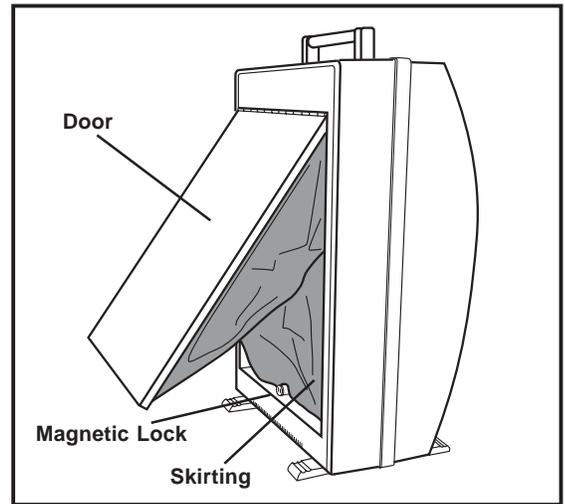

Figure 4
2. Gently press in on the bottom of the cover door located on the backside of the Skin Scanner (fig. 4). The cover door will disconnect from the magnetic lock that secures the door when closed.